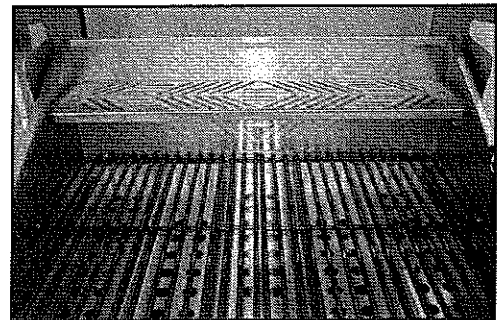

Fig. 15
3. Place warming shelf on support brackets by setting it flat across brackets allowing the two holes to line up with the stops on each bracket. (See Fig. 15)